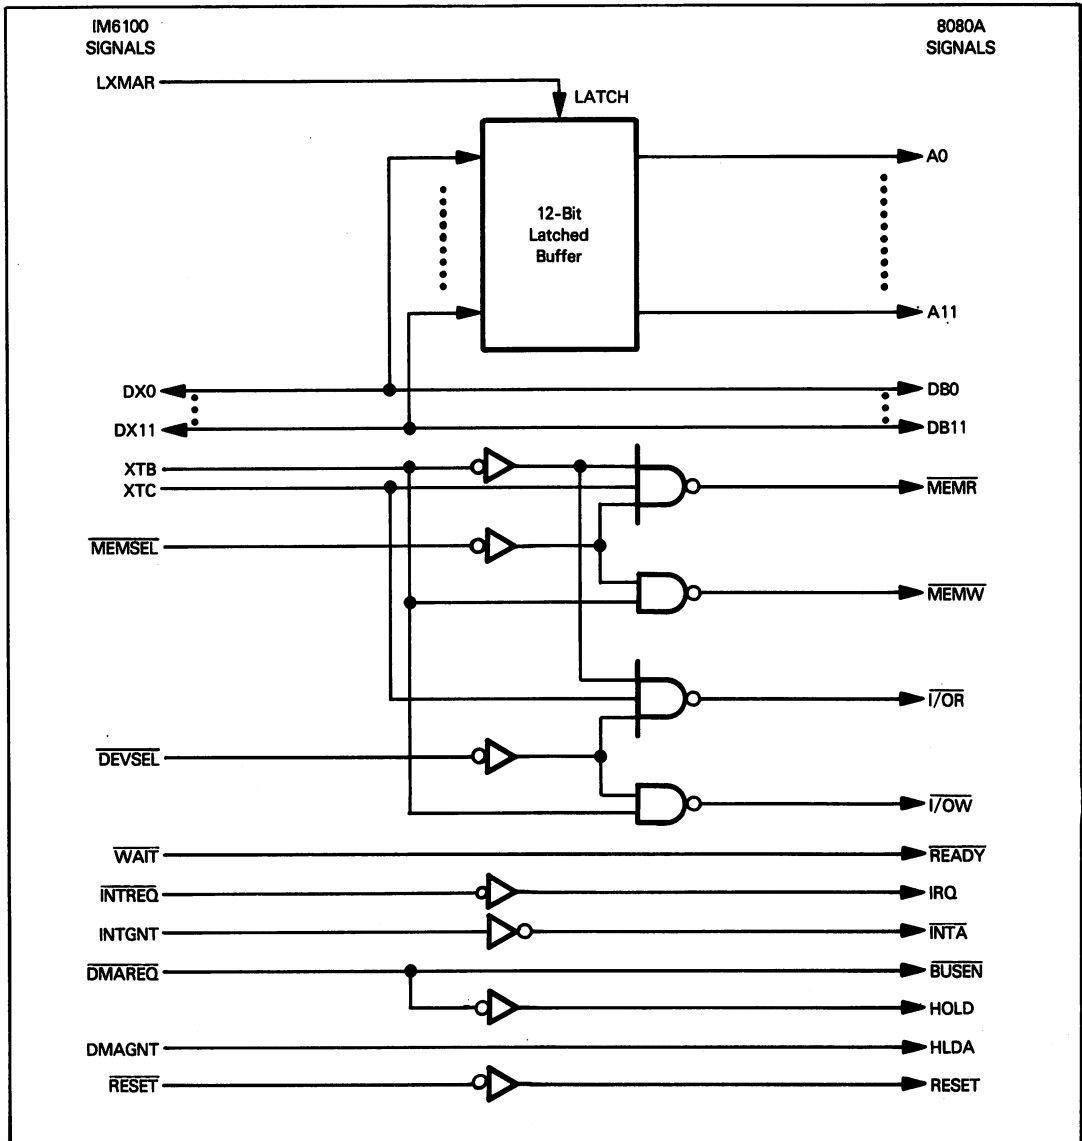

Figure 13-29. IM6100 System Bus Converted to an 8080A-Compatible System Bus
**Since the 8080A System Bus is the most useful, in that it supports the most readily available support devices, we will begin by looking at how 8080A-compatible signals may be generated from the standard IM6100 System Bus. Figure 13-29 provides necessary bus conversion logic. The bus conversion is quite simple.**
The most complex portion of Figure 13-29 is the logic which demultiplexes the Address and Data Busses. A 12-bit address buffer must be present, using LXMAR as a latching strobe. This buffer will create the Address Bus, while DX0 - DX11 otherwise implements the Data Bus. Remaining control signals are generated using simple gates. Note that no
attempt is made to generate signals that reproduce 8080A clock signals or exact machine cycle timing. Since the 8080A System Bus is asynchronous, this presents no problem. So long as control signals have the required pulse widths and logic levels, they will work with 8080A support devices. Thus an 8080A System Bus as illustrated in Figure 13-29 can be used in a microcomputer system where the IM6100 is the CPU and 8080A support devices provide additional logic; however, Figure 13-29 does not generate a System Bus which could be used in a microcomputer system where an IM6100 and an 8080A were communicating with each other. For those 8080A support devices that do need a clock signal, one can be derived from XTA, XTB and/or XTC.